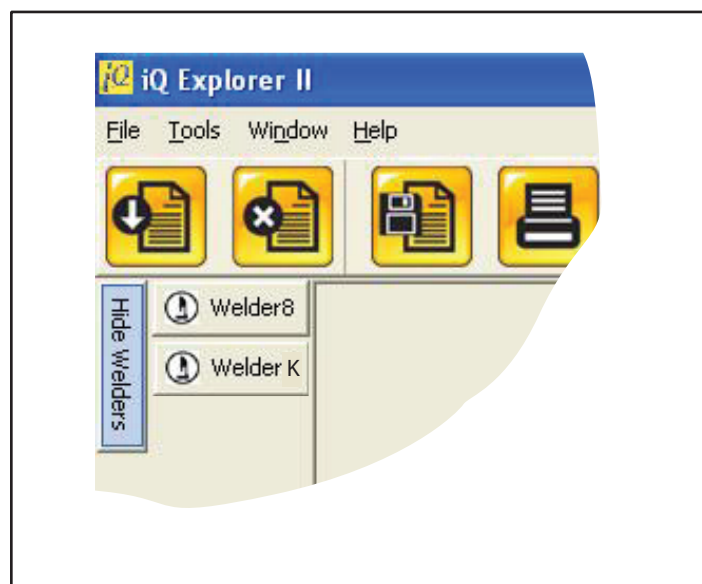

Figure 5-5 Show Welders - 2
- An example list of available welders is shown in Figure 5-5 to the right. Notice that the button has changed to **Hide Welders**.